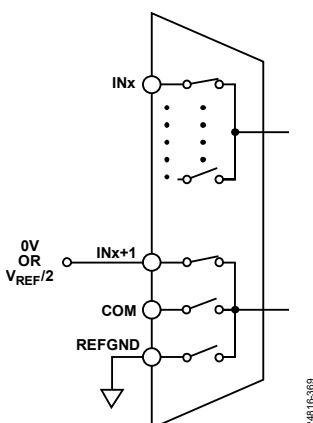

Figure 68. Channel Configuration Option C
- Figure 68, even numbered input paired with the next highest odd numbered input (for example, IN0 with IN1, IN2 with IN3, and so on).